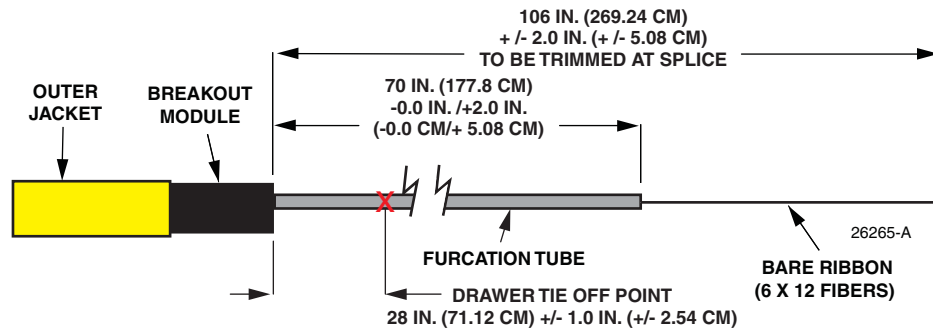

Figure 18. IFC Cable Breakout Dimensions
2. Pull an eight foot length of the cables through the grommet to a flat surface near the cabinet. Figure 18 shows a cable being broken out.
3. Break out the outer jacket of the cable corresponding to the dimensions provided in Figure 18.